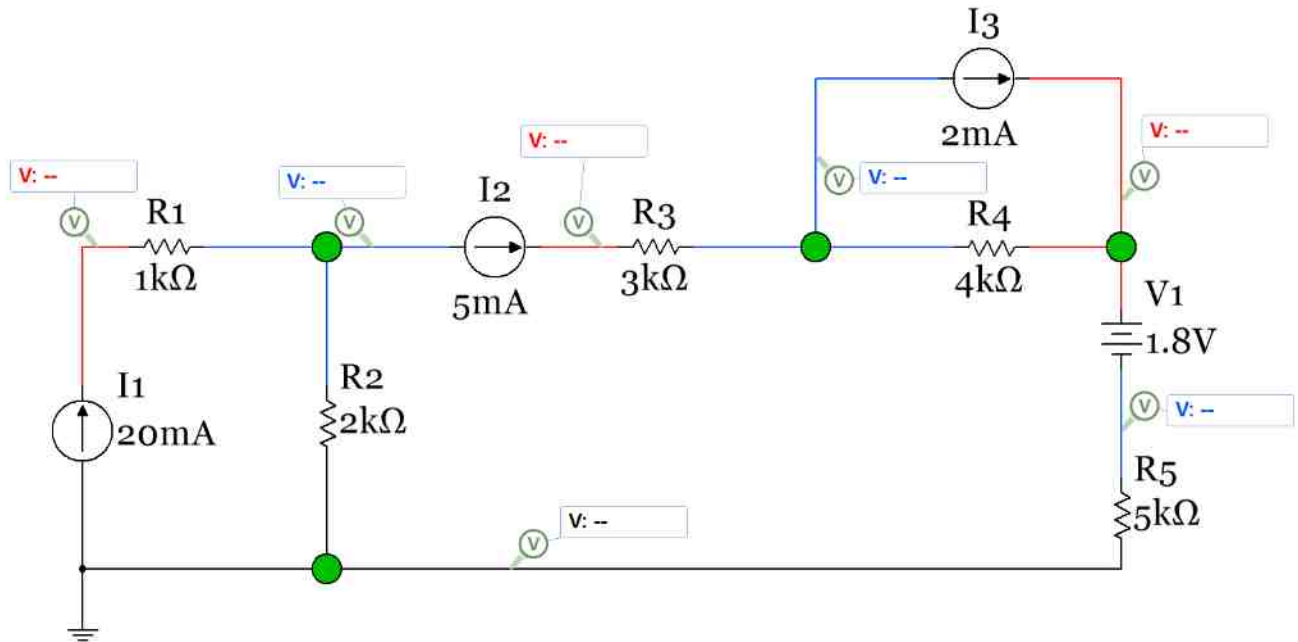
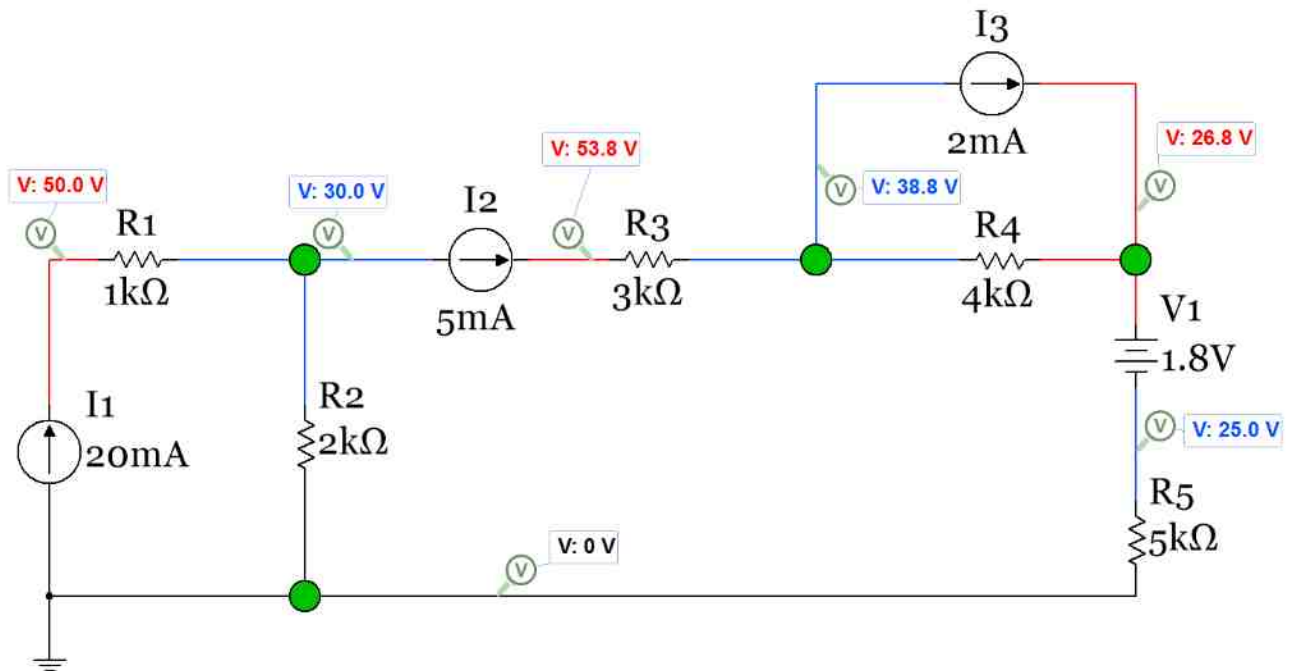
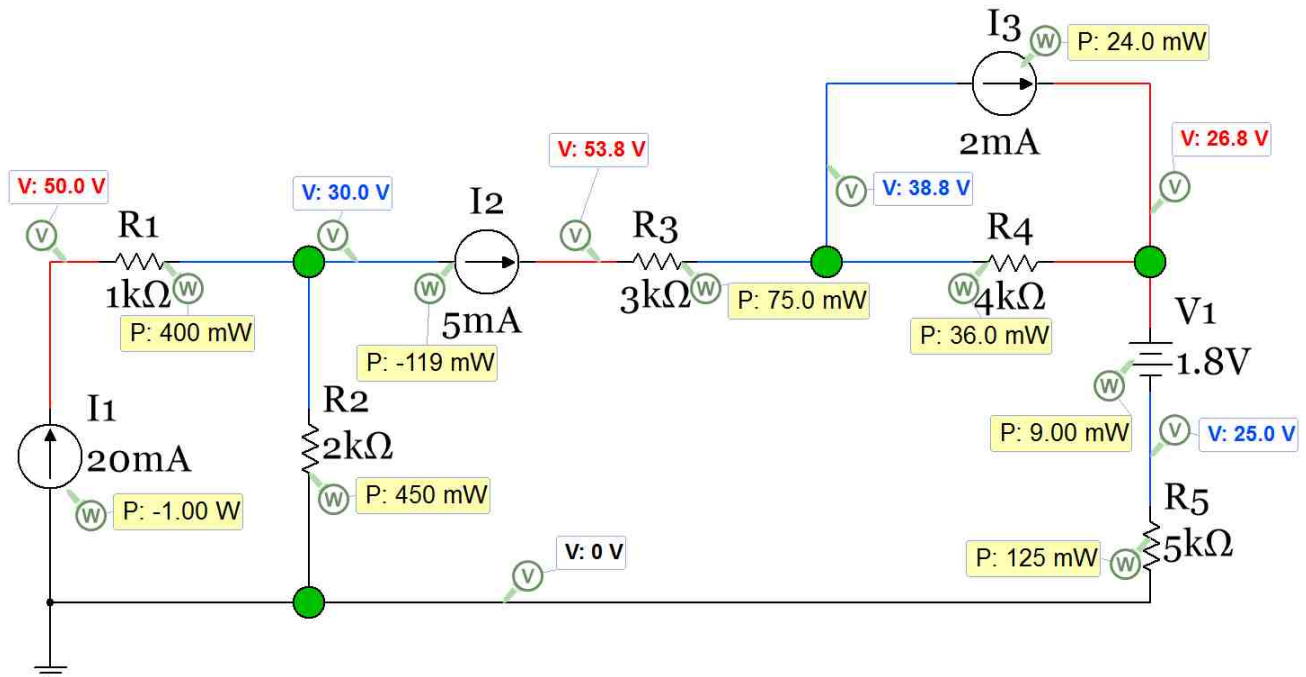

Figure 1.10: Circuit for Example 1.10
Figure 1.11: Circuit for Example 1.11
Figure 1.12: Circuit for Example 1.12
*Example 1.10) Answer the following questions about the circuit in Figure 1.10.*
Example 1.11) Using the circuit in Figure 1.10 with the Voltage probe values given (shown in Figure 1.11) determine the values of  $I_{R2}$ ,  $I_{R4}$ , and  $I_{R5}$  using equation 1.6.
If you are asked “What is the power **supplied** by I1 in Figure 1.11?” it is implying you are only wanting the magnitude (which is equal to  $P = 0.02 \cdot 50 = 0.1 \text{ W}$ ) since it states the power is “**supplied**” in the question. The actual power would have a negative sign, but the power that is **supplied** can be listed as a positive value. If the question said “What is the power of I1?” then you would include a negative sign ( $-0.1 \text{ W}$ ) to show that it is **supplied** power.
Example 1.12) Using equation 1.10 perform a power balance for the circuit in Figure 1.12. This is the same circuit as shown in Figure 1.10 and Figure 1.11, but now Multisim power probes are included so you can check the answers obtained from hand calculations.